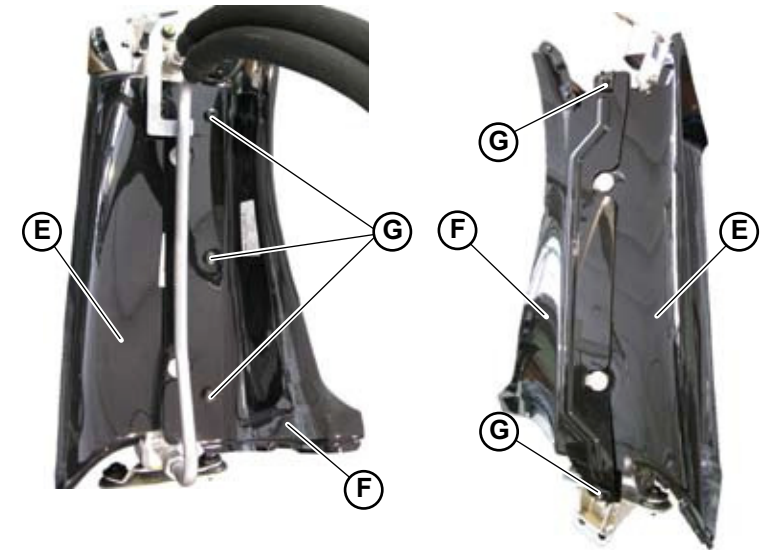

Fig.2
4. Loosen the specific 5 screws (**G-Fig.2**) to remove the front conveyor (**E-Fig.2**) and the rear conveyor (**F-Fig.2**).